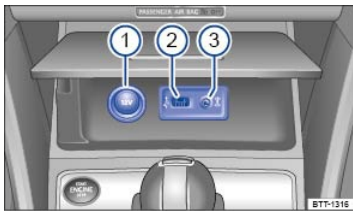

Fig. 109 12 Volt socket in the front center console.
- In the storage compartment in the front center console ⇒ Fig. 109 ⓘ.